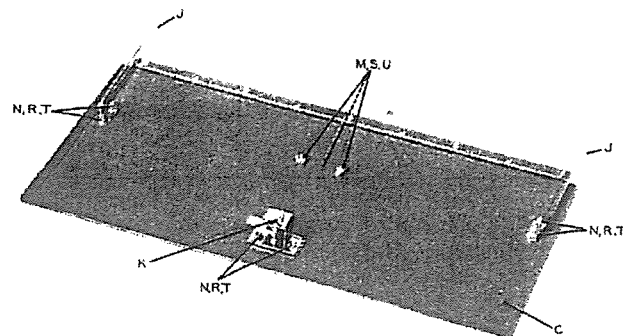

Figure 2-1. 499G-1 Rack Mounting Shelf, Front Panel Assembly
2.2.3.2 FRONT DOOR ASSEMBLY. (See figure 2-1.)
c. See figure 2-1. Attach the two lid supports, item J, to the rear of the door with the slotted arm adjacent to the edge of the door. Use two each of items N, R, and T on each support.